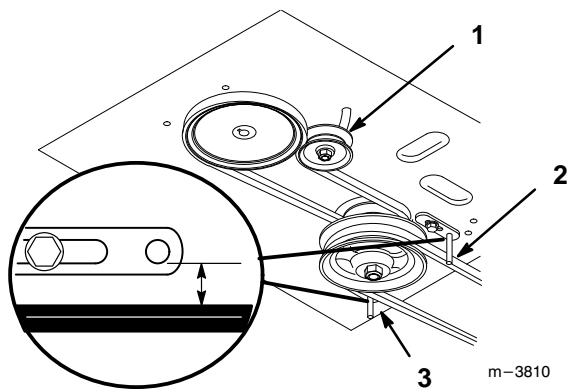

Figure 44
5. Install new belt around engine and drive pulleys (Fig. 44).
6. Slide idler pulley in engine frame to tension traction belt (Fig. 44).
8. Check the belt guides under the engine frame for proper adjustment (Fig. 44). Adjust as necessary. The disengaged belt should not drag or fall off pulley when guides are properly adjusted.